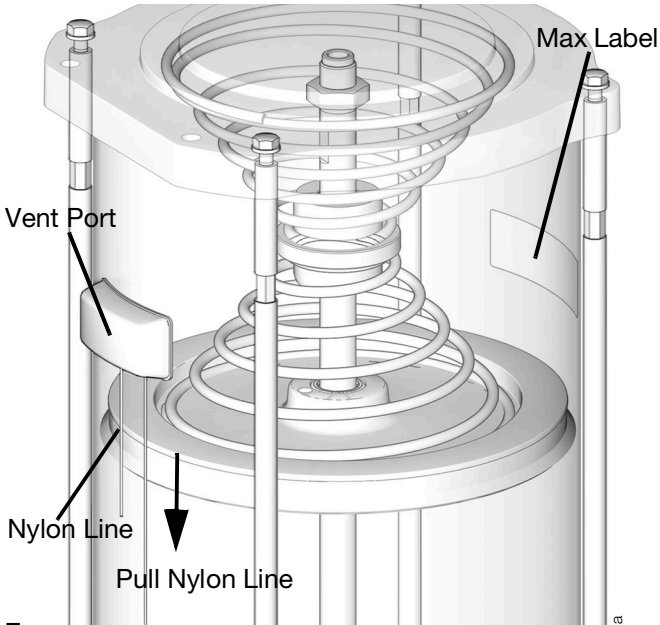

FIG. 10
**NOTE:** Pull the nylon line as shown in FIG. 10 to avoid pulling the vent port off of the pump.
- Continue filling until the follower plate reaches the Max label, which is slightly lower than the vent port (FIG. 10).